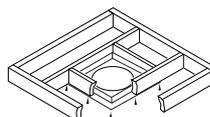

Figure 20 - Installing Firestop
1. Cut a 10 3/4" square hole in the ceiling using the locating hole as a center point. The opening should be framed to 10 3/4" x 10 3/4" inside dimensions, as shown in Figure 11 on page 11 using framing lumber the same size as the ceiling joists. If the area above the ceiling is an insulated ceiling, you must use the firestop thimble and special firestop included with the kit to prevent insulation from contacting the vent pipe (see *Thimble Installation*, page 16). Otherwise, install firestop below the framed hole. The firestop should be installed with no less than three nails per side (see Figure 20).
- Refit assembly into opening and attach to framing with 8 phillips screws provided (see Figure 20, page 15).